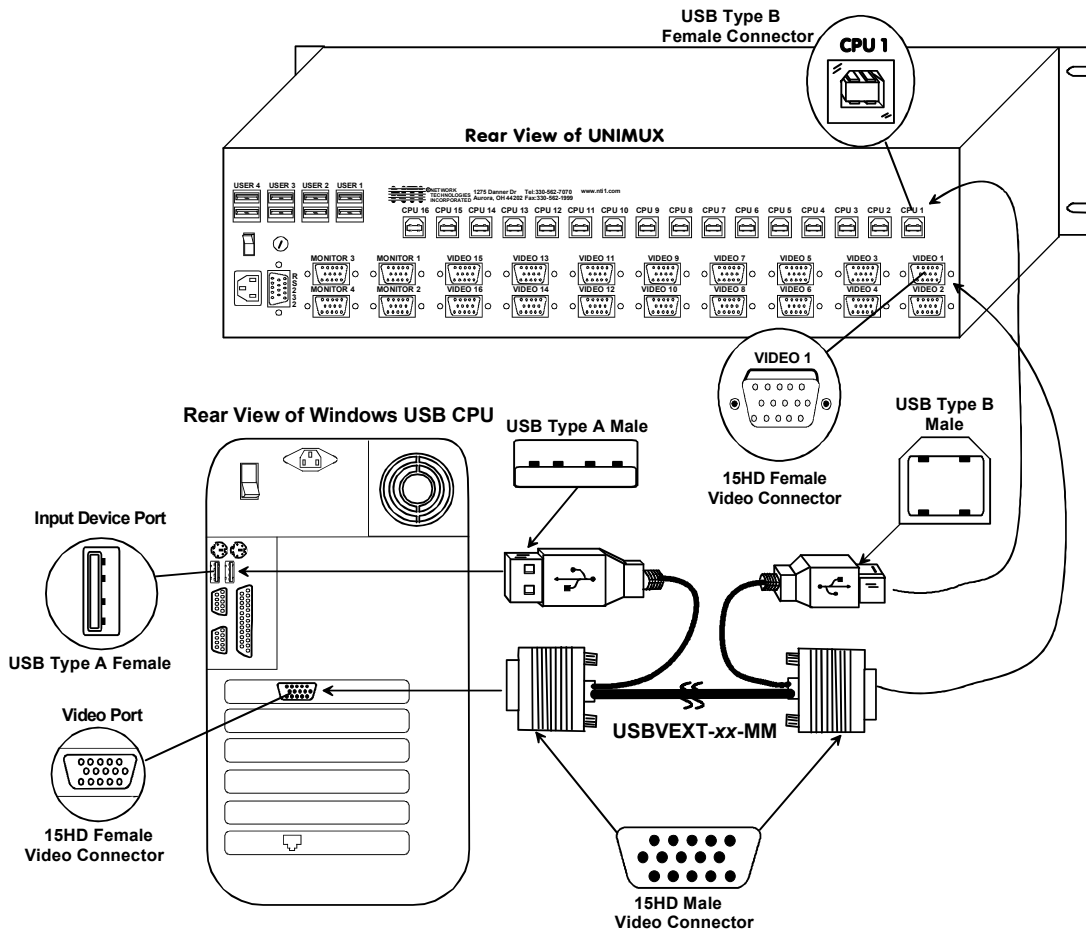

Figure 7- Connect each CPU using a USBVEXT-xx-MM cable
- Connect the 15HD male cable ends of a USBVEXT-xx-MM cable from the video port of the same CPU to a VIDEO x port of the UNIMUX switch with the same port number as the user device cable. (See Figure 7.)
Note: Make sure the CPU is connected to a Keyboard port and a Video port with the same number. (See Figure 7.)